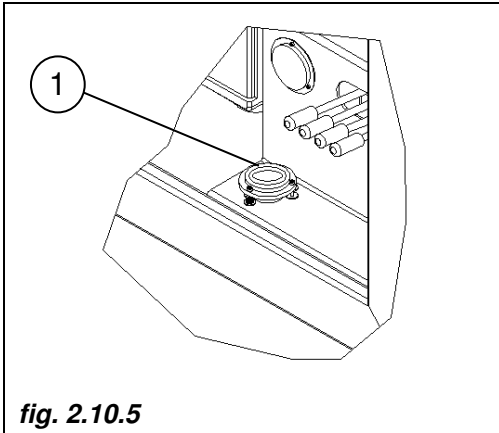

fig. 2.10.5
Situated in proximity of the outriggers control levers (*pos. 1 fig. 2.10.5*) indicates the horizontality of the machine.